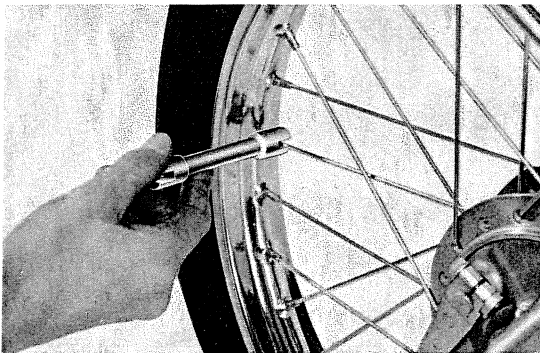

Fig. 104 Spoke retightening
- 6) Check spokes for damage, bent and loosening. Tighten the loose spokes, straighten the bent spokes and replace the broken spokes with new one. (Fig. 104)